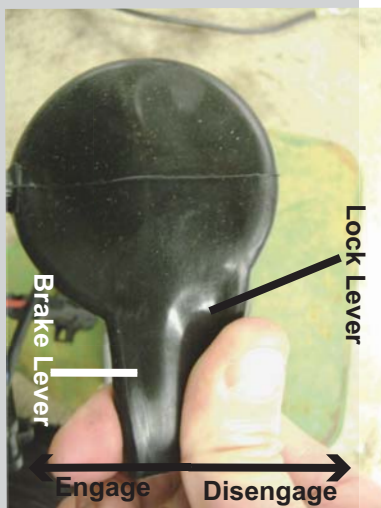

Figure 5
3. With your thumb, depress the spring lock lever on the right hand side of the boot cover. Then, rotate the override lever counter clockwise with your index finger to disengage the motor brake. (Figure 5)
5. Once room is fully retracted, re-engage brake lever on motor. (Fig 5)